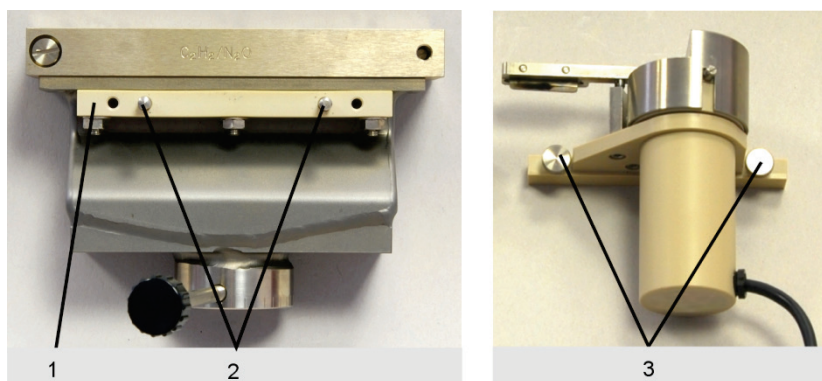

Fig. 45 Fastening rail mounted on burner/knurlled screws on the scraper
2. Unscrew the fastening rail (1 in Fig. 45) with knurled screws (2 in Fig. 45) from the scraper.
4. Attach the scraper to the guide pins of the fastening rail (2 in Fig. 45) and tighten with knurled screws (3 in Fig. 45).